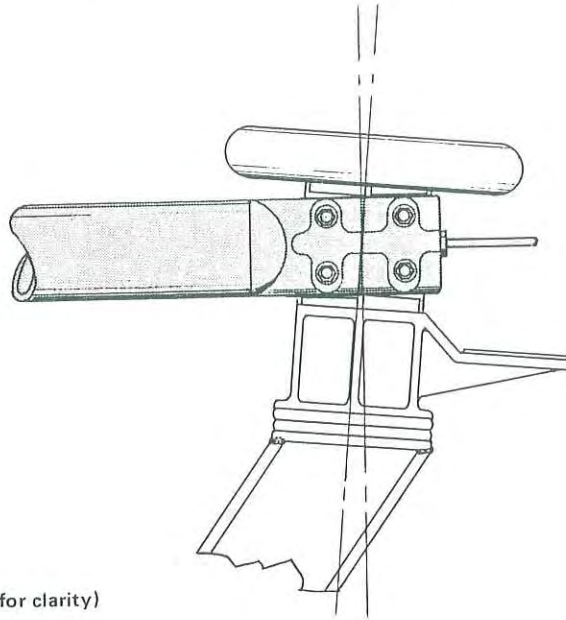

Figure 13 - Jaw misalignment (exaggerated for clarity)
9. Occasionally, uneven or slightly misaligned insulator caps will make proper contact adjustment impossible to achieve, using jack screws alone. This condition could appear in two places: One, a jaw could be misaligned horizontally, preventing full contact with the complete length of the blade tip, as suggested in figure 13. To correct, place shims between the hardware mounting surfaces as needed to produce full, even contact between all contact fingers and the entire length of the blade tip.